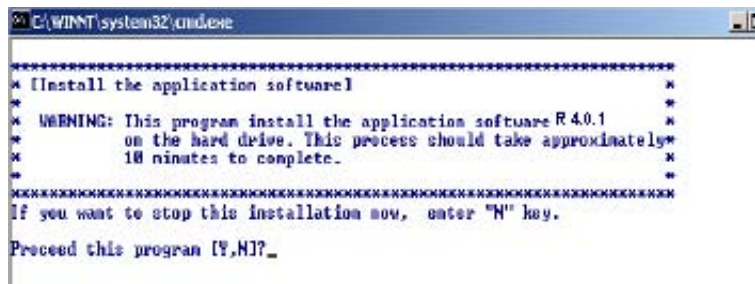

Figure 8-115 Application CD Installation Popup
- 5.) You will see a Command (CMD) window open as shown in Figure 8-115 on page 8-172 .